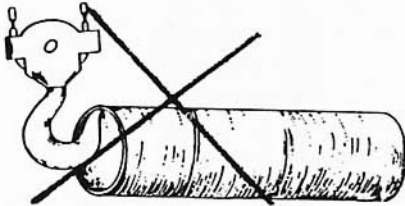

Figure 31 Don't lift on the point of the hook
- Lift loads on the points of hooks (Fig. 31).